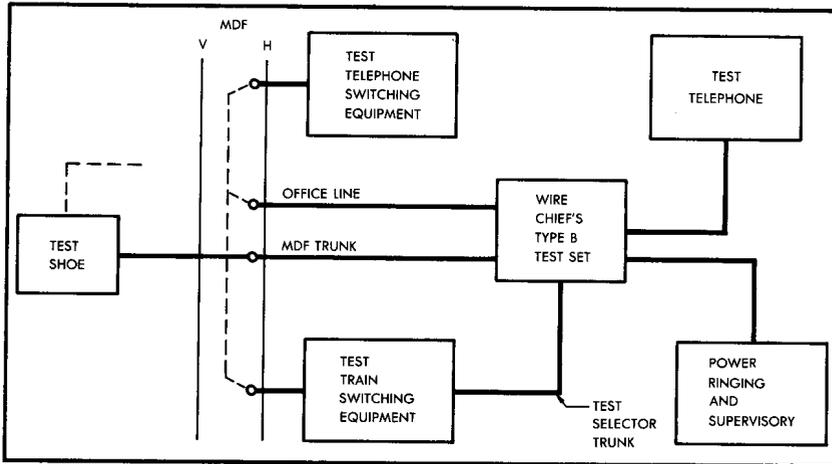

FIGURE 3. Typical Application for Type B Test Set
2.01 System Application: A block diagram of the application of the test set in a typical dial central office is shown in Figure 3 and described as follows: